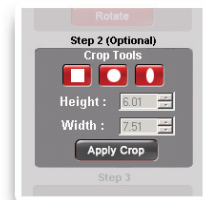

Figure 3. Crop tools and height and width adjustment.
STEP 2: CROP TOOLS (optional) – See Figures 3 and 3a